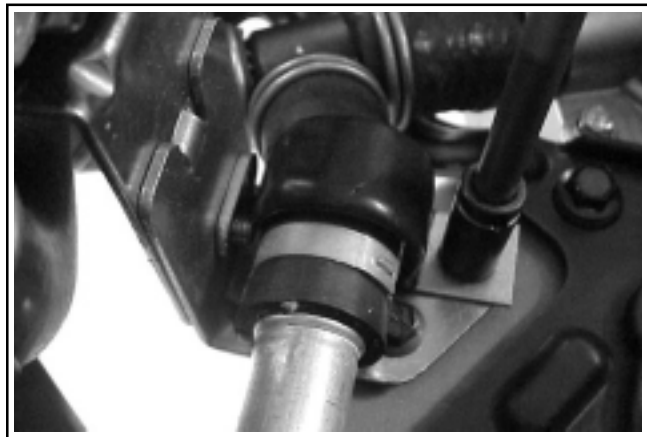
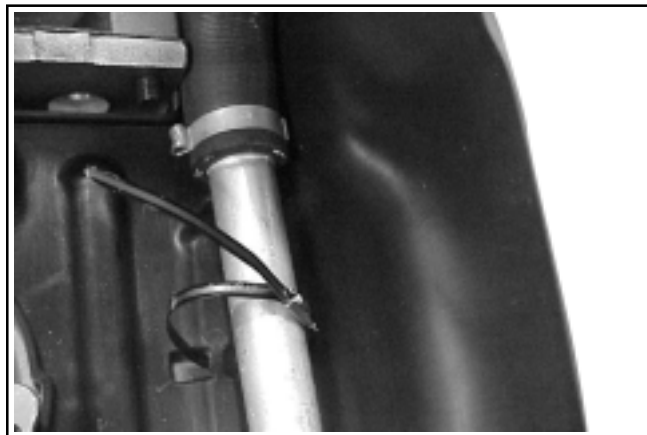

Figure 11-76. Rear Bracket/Clamp.
Figure 11-77. Tie Strap.
7. Align the rear mounting bracket with the corresponding set of holes in the crankcase. Position the half clamp over the hose and install the two hex. flange screws. See Figure 11-76. Allow the entire cooling system assembly to center itself within the constraints of the mounts, then torque the screws to **10.7 N·m (95 in. lb.)** if a first time/initial installation, or to **7.3 N·m (65 in. lb.)** anytime thereafter. Close, but do not tighten the metal tie strap around lower tube. See Figure 11-77. Tightening of tie strap assembly has been installed in the following sequence.